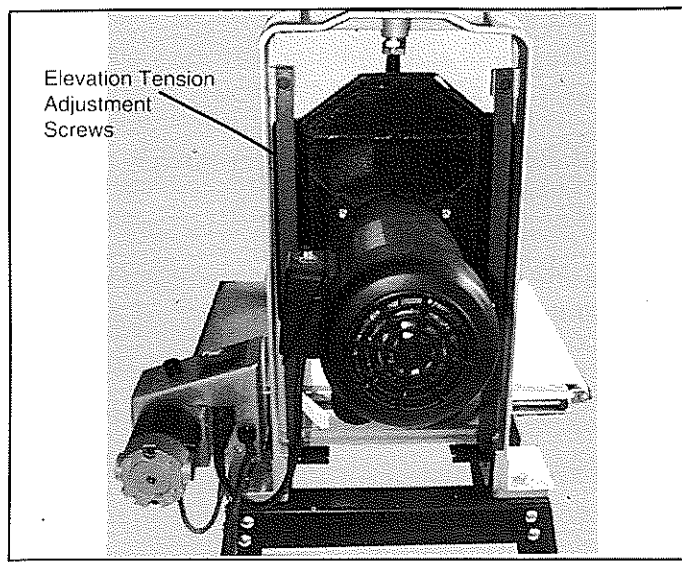

Figure 9
- 1. Check the tightness of the Elevation Tension Adjustment Screws (Figure 9). The tightness of these screws must be adjusted to allow smooth height adjustments, while ensuring a tight enough fit to limit drum deflection. (If the screws are too loose, the drum will deflect during use, causing an uneven sanding surface. If the screws are too tight, sanding drum height adjustments will be difficult.)